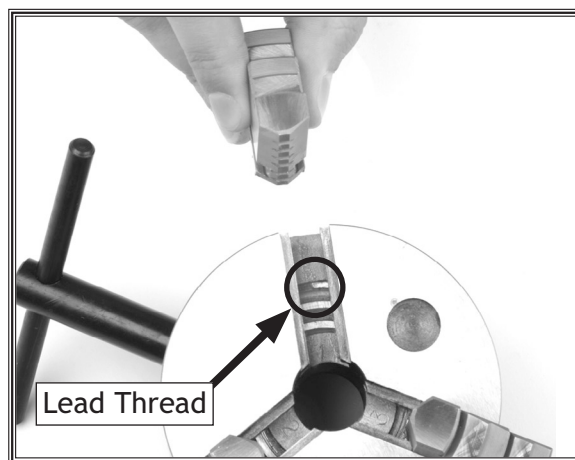

Figure 15. Lead thread on scroll gear.
6. Rotate the chuck key clockwise until you see the tip of the scroll-gear lead thread just begin to enter jaw guide #1 (see **Figure 15**).